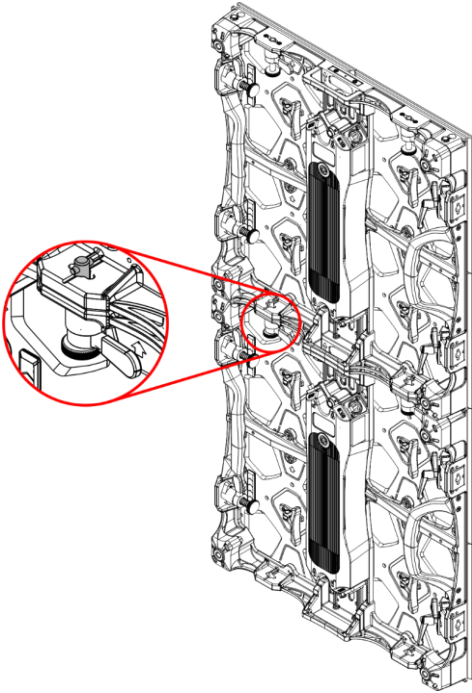

Fig. 42
- 04) Make sure that the **pins (C)** of the left **locking mechanism (06)** are firmly locked in the **fast-lock opening (11)** on the bottom of the device, as shown in Fig. 42.